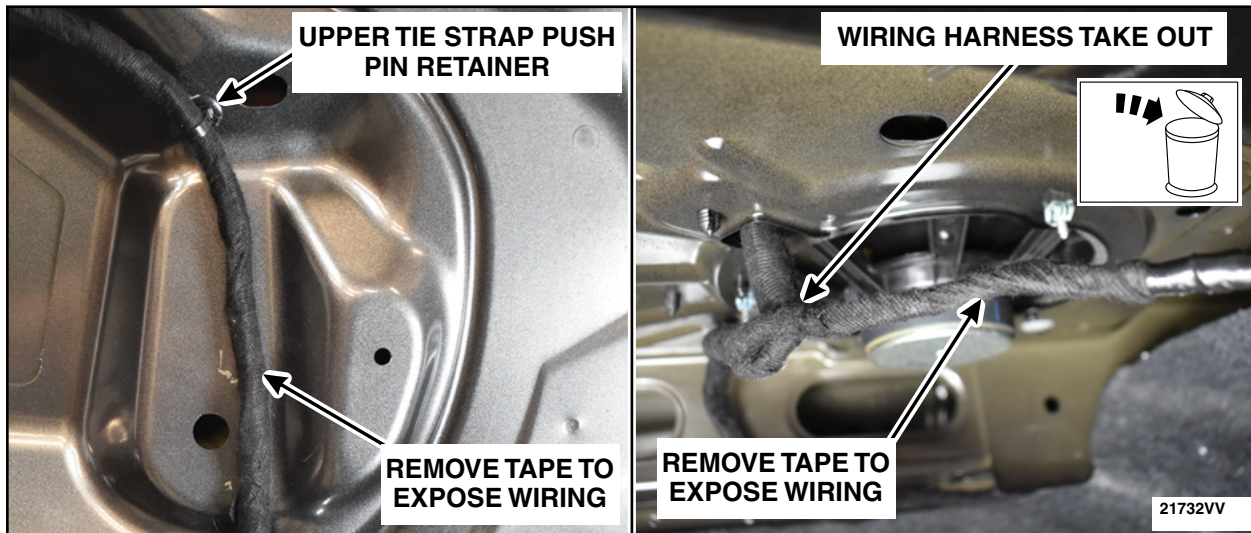

FIGURE 11
15. Remove and discard the felt tape to expose the wiring within the harness from the upper tie strap push pin retainer to the wiring harness take out. See Figure 11.